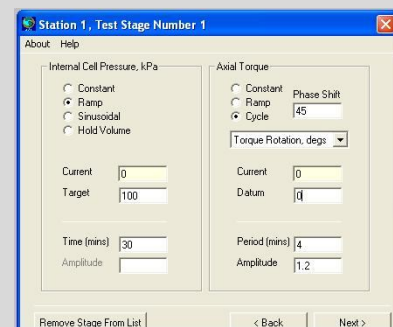

Fig. 2 HCA static test setup module
- A phase shift offset angle may be introduced between axial and rotational axes when slow speed cyclic tests are being performed (see Fig. 2)